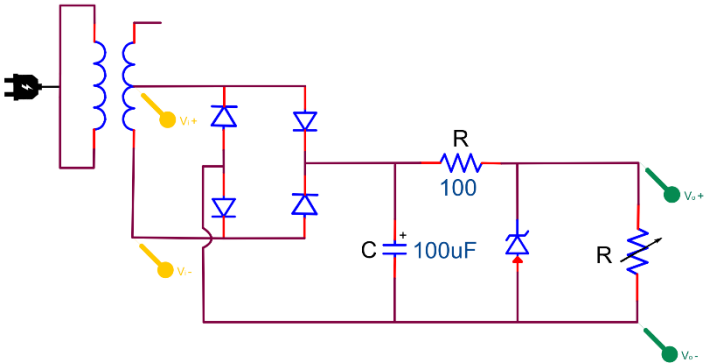

Figure 4.14
10. Construct the circuit in Figure 4.14. Use a 1N957A zener diode. Measure the load voltage and percent ripple with this zener voltage regulator. **Decrease the load resistance** until the output voltage is no longer regulated at 6.8 volts. That is, negative going ripple spikes just begin to appear in the output voltage. Compare this resistor value to the theoretical minimum load resistance found in the pre-lab.
- e. Figure 4.14